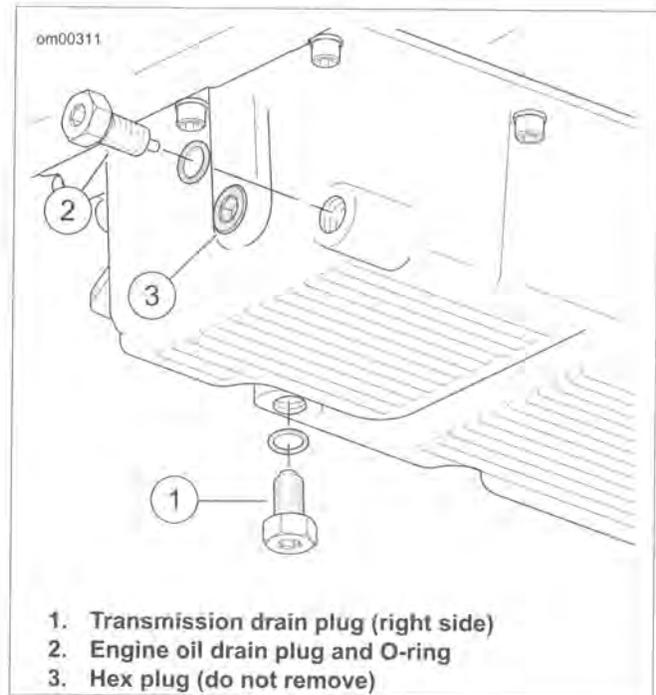

Figure 1-17. Oil Pan
2. See Figure 1-17. Remove transmission drain plug. Drain lubricant into a suitable container.